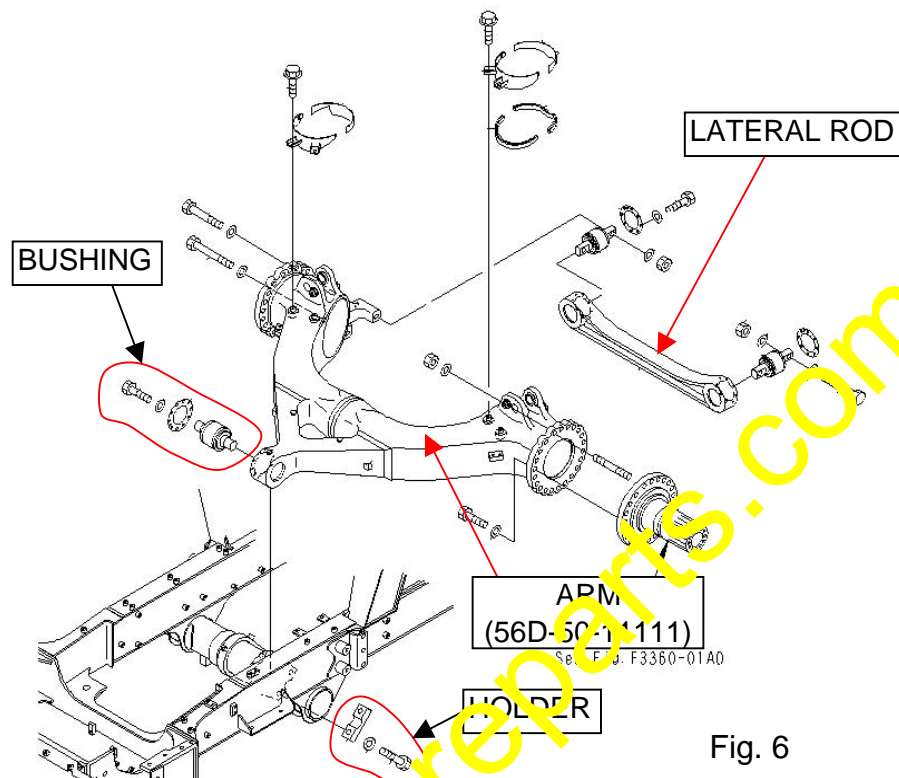

Fig. 6
- 7) Remove the lateral rod. (Refer to Fig. 6.)
- 8) Remove the holder. (Refer to Fig. 6.)
- 9) Remove the arm (56D-50-1111). (Refer to Fig. 6.)
- 10) Remove the center bushing. (Refer to Fig. 6.)